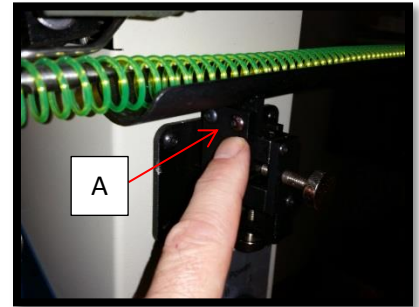

Figure 3
- Cut the tie wraps from the coilbed (not shown). These were put in place for shipping purposes only. The coil chute will also have to be installed using two screws. These screws are screwed into the holes of the coil chute bracket for shipping purposes. Short end of coil chute should be placed to the left. Figure 3